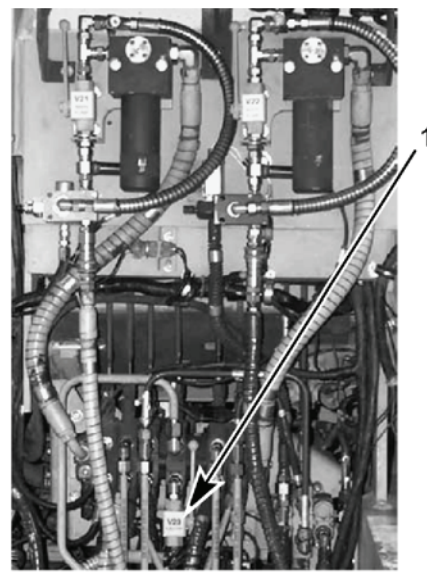

Figure 15. DCV Bank
- Enable ejector by manually opening the ejector inhibit ball valve V23 (Figure 15, item 1) on the DCV bank.